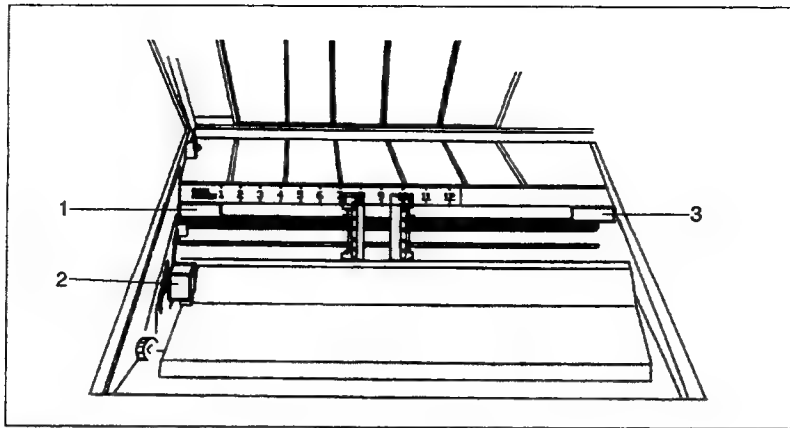

Figure 2-6. Removing the Foam Packing Blocks
- f. Open the printer's top access cover. Remove the three foam packing blocks in the order shown in Figure 2-6. Block #1, #2 and #3 are removed by grasping toward the rear and pulling up and out.